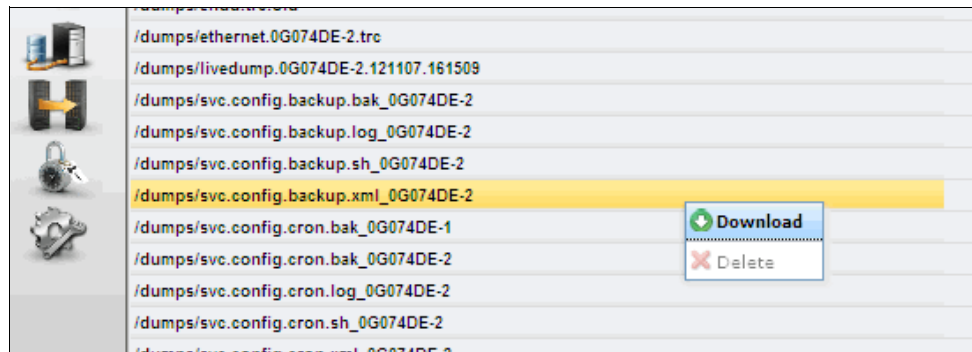

Figure 9-19 Configuration backup start download
4. Search for a file named `/dumps/svc.config.backup.xml_*`, as shown in Figure 9-19. Select the file, right-click it, and then select **Download**.